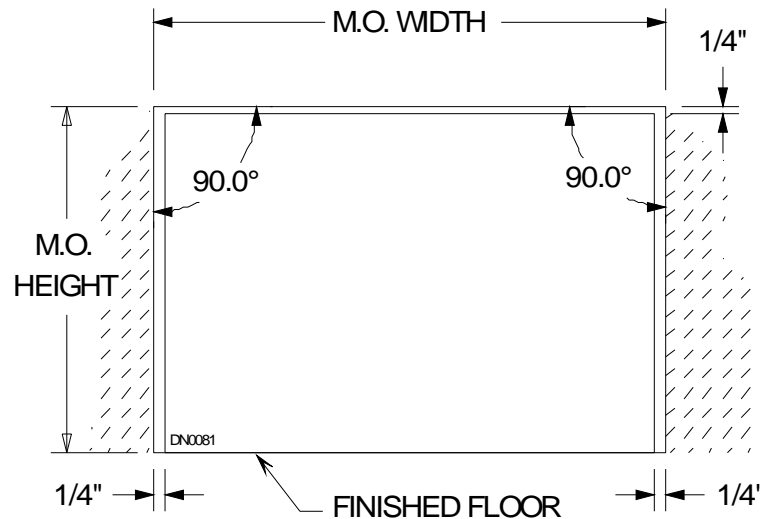

Figure 1
A. Masonry Opening (MO) Preparation
3. MO width should be package width plus 1/4-inch per side. (see Figure 1).